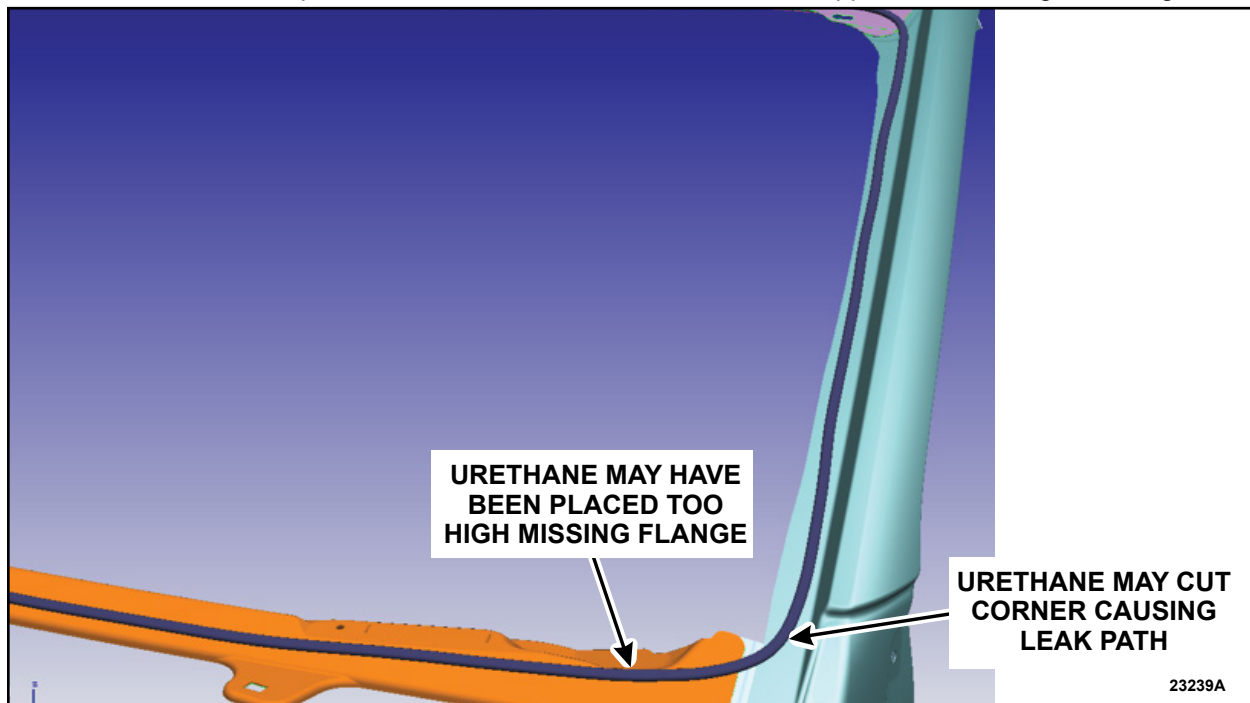

FIGURE 1
3. If the urethane bead was found to miss the flange in a local region, scuff the clear coat paint locally using Sandpaper (Grit #600) cut to 1inch (25 mm) width or Scotch-Brite pad Type A (very fine) to remove the clear coat paint where the urethane should have been applied on the flange. See Figure 1.